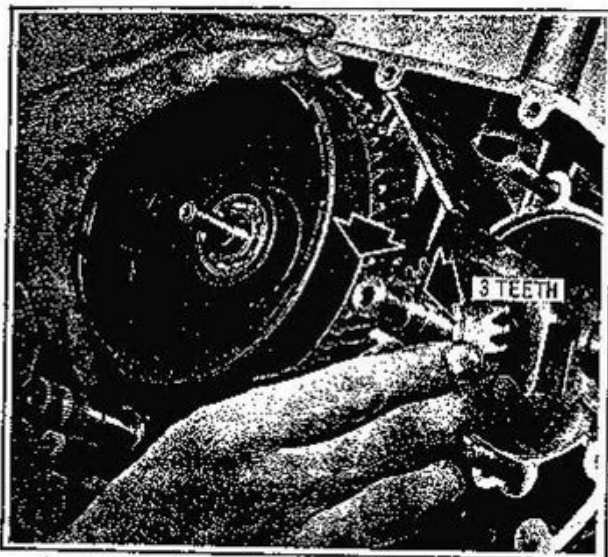

Figure 4B-41. Preloading Clutch Drive Takeup Gear
(16) on transmission mainshaft engaging teeth of shell gear with teeth of drive takeup gear. Rotate takeup gear counterclockwise against takeup spring pressure by rotating clutch shell gear clockwise. (See Figure 4B-41). When takeup gear has advanced 3 teeth on clutch drive gear, push shell gear in to fully mesh with drive gear.
Install clutch hub (15) with small hole in hub facing out. Install lock (14) and hub nut (13). Use tool Part No. 97291-61PA to hold hub when tightening clutch hub nut as shown in Figure 4B-40.